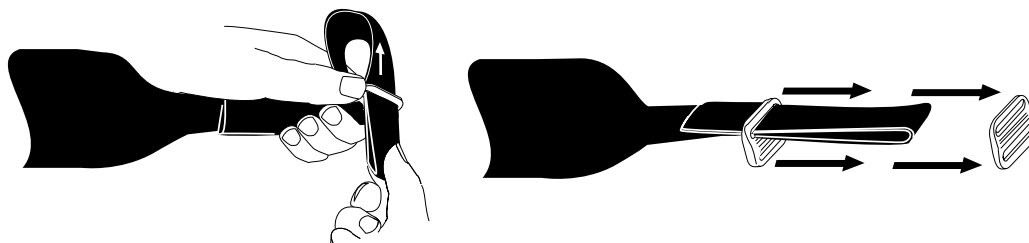

Figure 3
b). Remove the pulling sleeve loop by feeding the mesh (sleeve) loop back through the buckle (Figure 3).